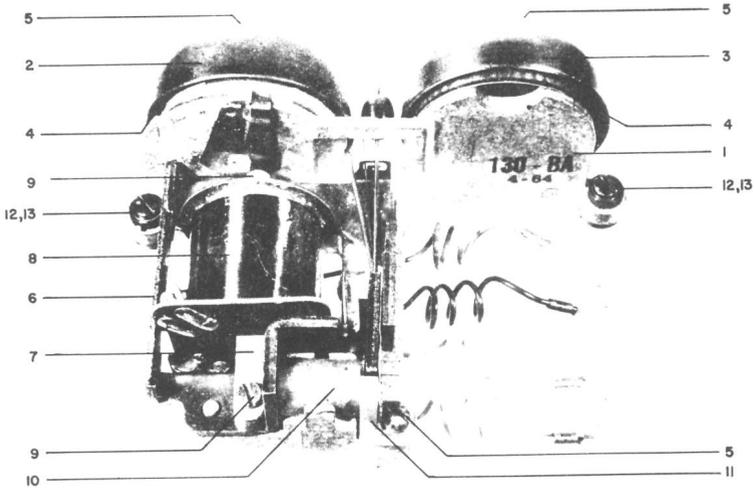
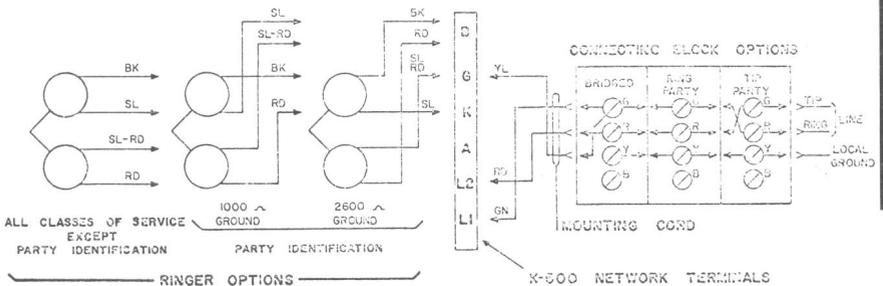

FIGURE 3. TOP VIEW
FIGURE 4. TYPICAL WIRING DIAGRAMS
- 1.04 The 130 ringer is a double wound coil, two gong, straight line, biased type of unit equipped with a mechanical volume control and assembled on an open, die-cast metal frame. (See Figure 3.) In combination with types 131, 133, 141 and 142 frequency selective ringers, it provides a complete range of units which meets the requirements of every class of telephone line ringer. (See Figure 4.) Flexible wire leads are provided for the coil connections of the ringer. The unit is mounted to the telephone instrument base by a locating stud and two screws, each with a shock absorbing rubber bushing.